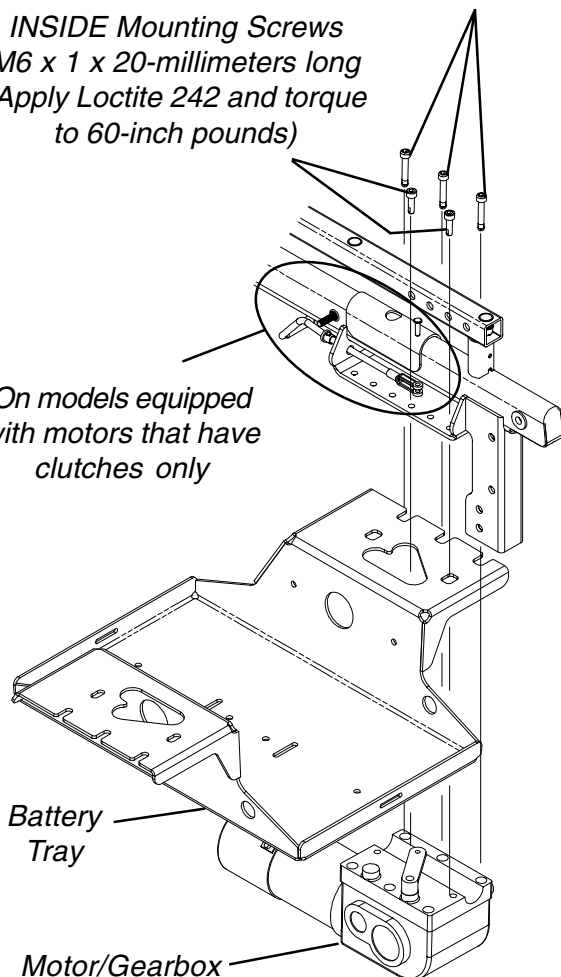

FIGURE 6 - REPLACING THE MOTOR/GEARBOX
7. Remove the three (3) outside and two (2) inside mounting screws that secure one (1) motor/gearbox and battery tray to the base frame. Refer to FIGURE 6.
9. Position the NEW motor/gearbox and align mounting holes with the existing battery tray and wheelchair frame at the position noted previously. Refer to FIGURE 6.
10. Install (apply loctite to mounting screws) the three (3) outside and two (2) inside mounting screws to secure motor/gearbox and battery tray to the base frame. Refer to FIGURE 6.